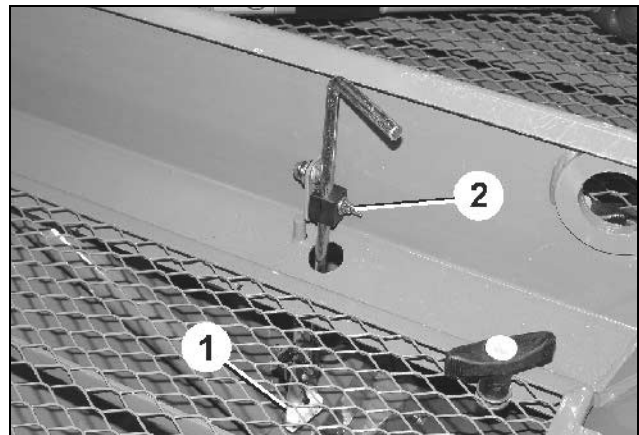

Fig. 93
1. Slacken the thumb nut (Fig. 93/2).
- 2 Set the level of the fill level sensor (Fig. 93/1) according to the desired seed residual amount.